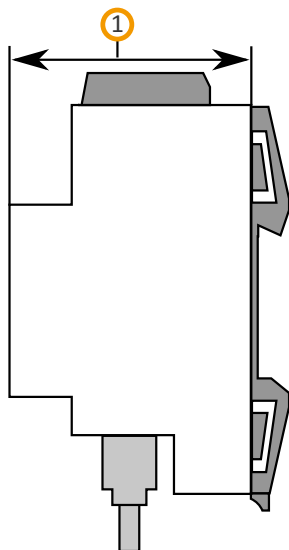

Figure 9: Device depth
Pay attention to the device depth (see figure 9, item 1): DRA Plus, 74 mm.